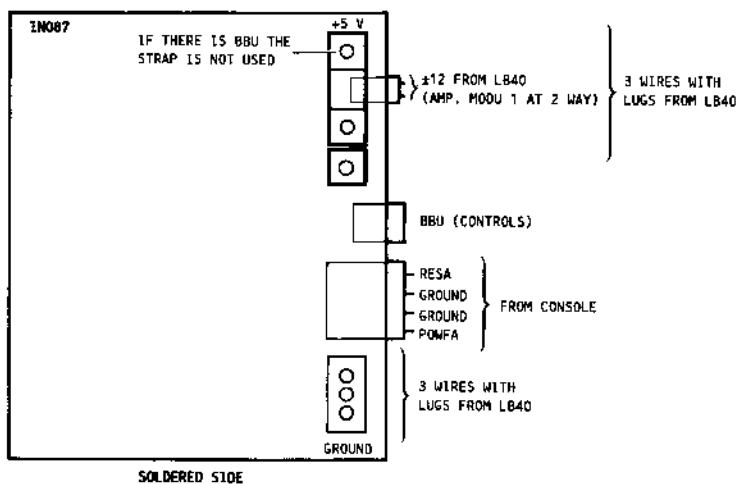

Fig. 2-19 Rear View of BACK PLANE and Connectors
8. Disconnect the three red +5 V power supply cables and the three black ground cables (see figure 2-19) on the left of the SBO (see figure 2-18).